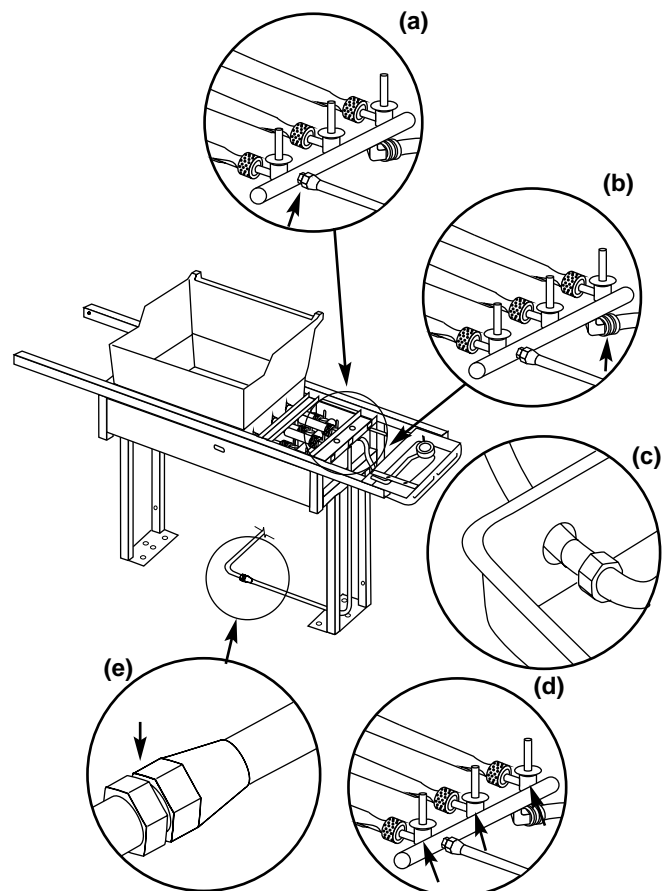

Figure 25
- Gas supply line to manifold connection. Figure 25 (a).
- Manifold to side burner hose connection. Figure 25 (b).
- Side burner hose to side burner connection. Figure 25 (c).
- Valves to manifold connections. Figure 25 (d).
- Barbecue gas supply line to natural gas supply connection. Figure 25 (e).